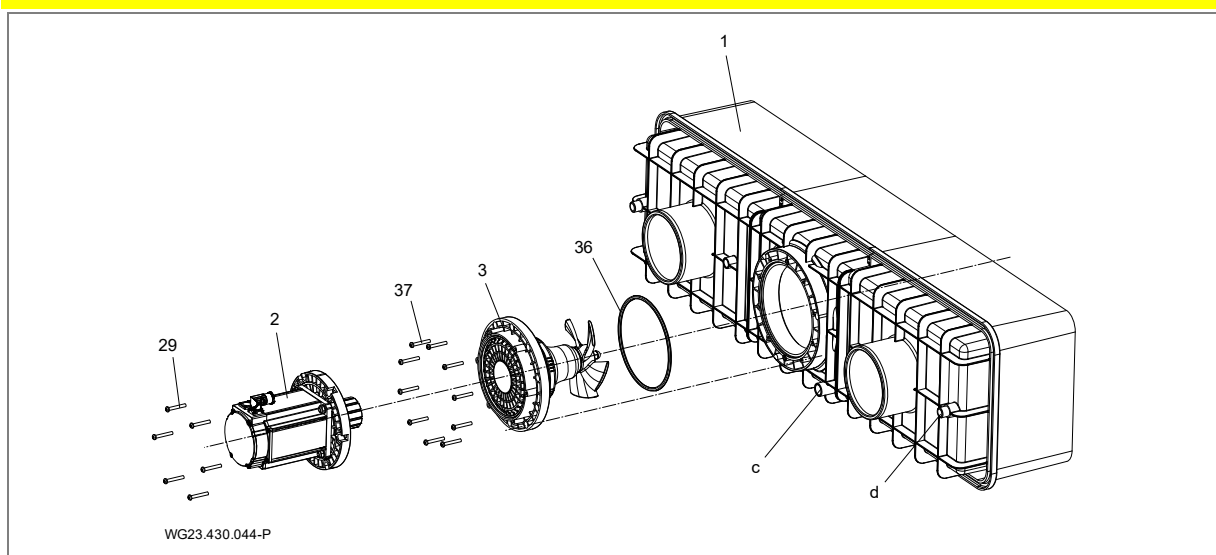

Fig. 16
1. Remove grease from the connection nozzle (d, See "Fig. 16" on page 21) on the plastic housing (1) and the connection socket of the cable protection tube (12) with PVC-U/ABS cleaner.